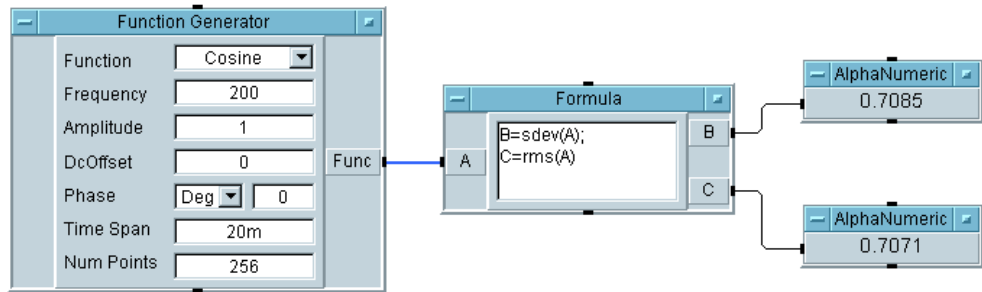

Figure 4-8. VEE Functions Using One Formula Object
9. Run the program. It should look like Figure 4-8.